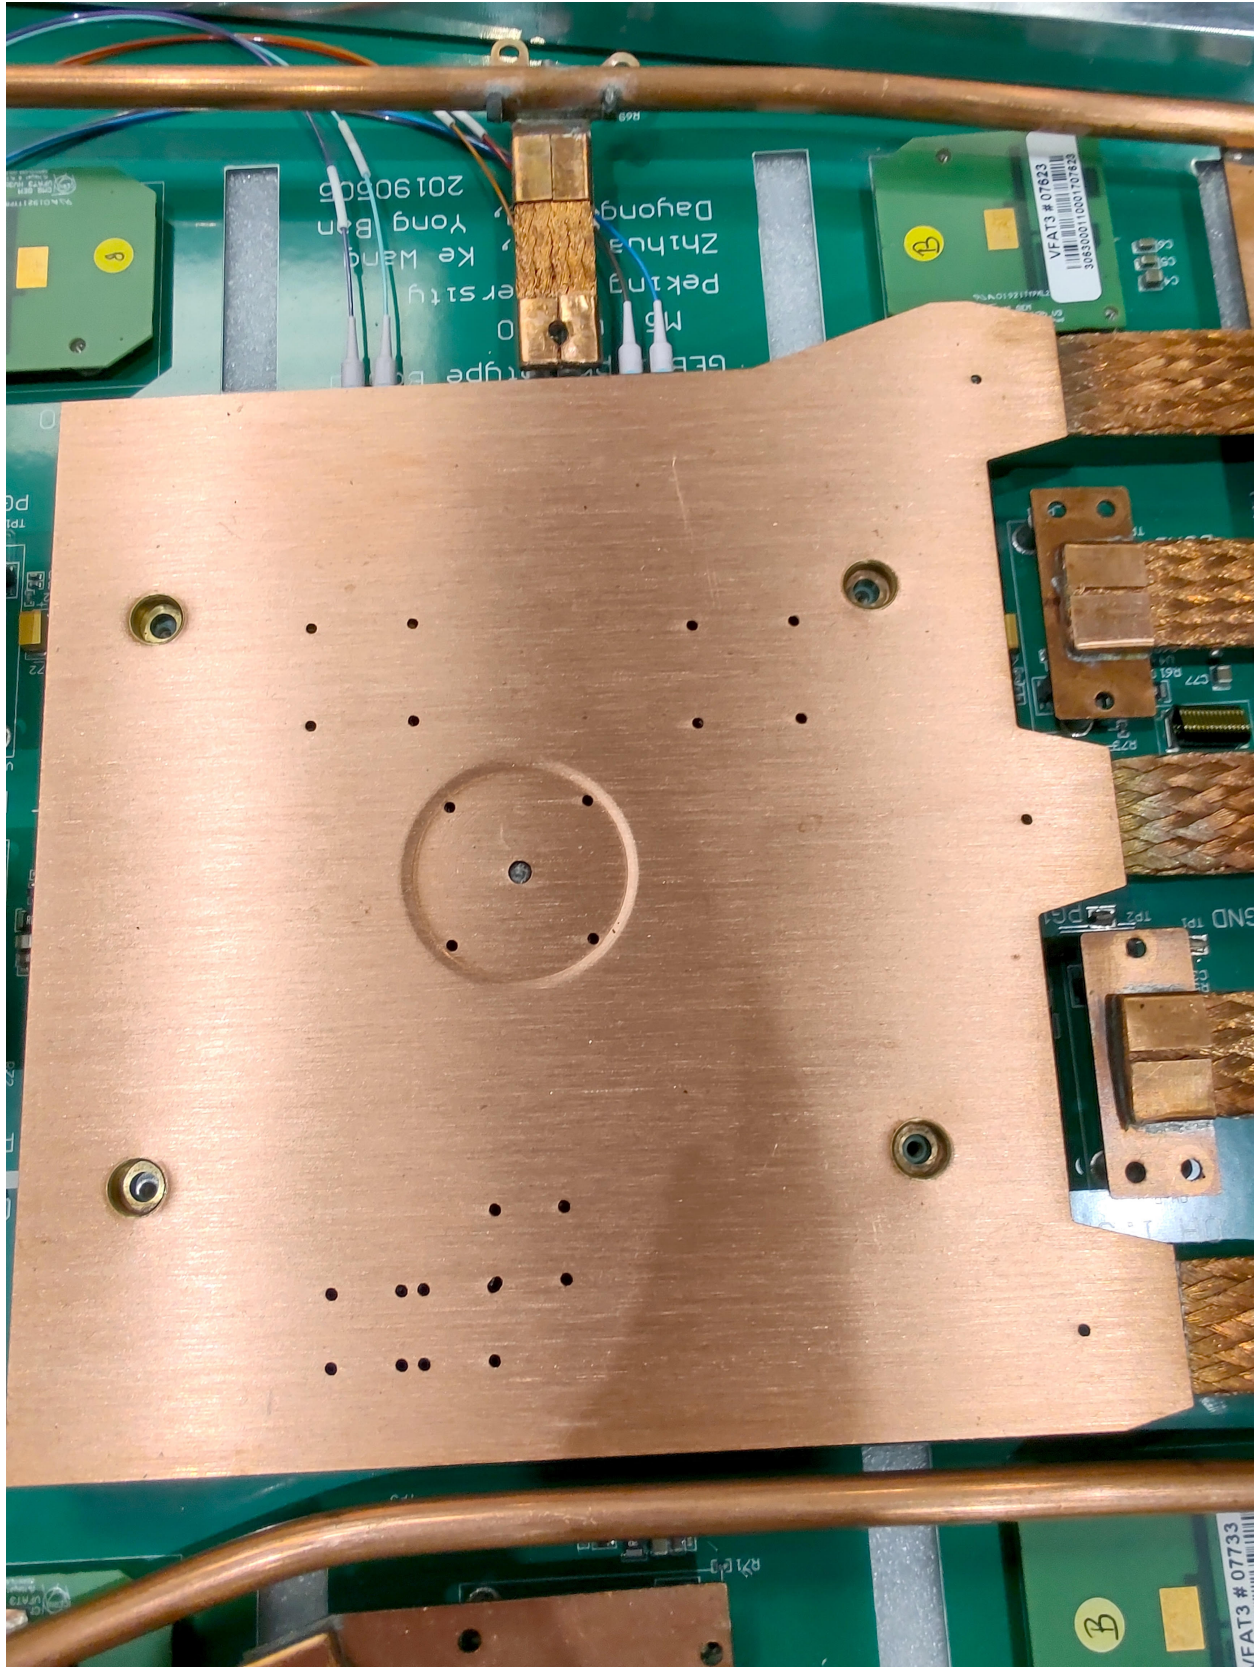

Figure 6: Example of the alignment of the copper cooling plate for the OH.
- Overall, the OH copper plates are well aligned with the OHs (see Fig. 6).